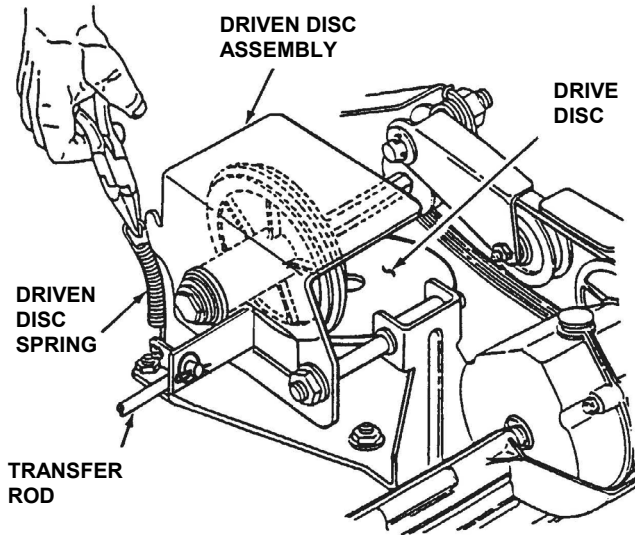

FIGURE 9
1. Remove driven disc spring from driven disc assembly as shown. See Figure 9.
7. Replace driven disc spring to driven disc assembly. See Figure 9.